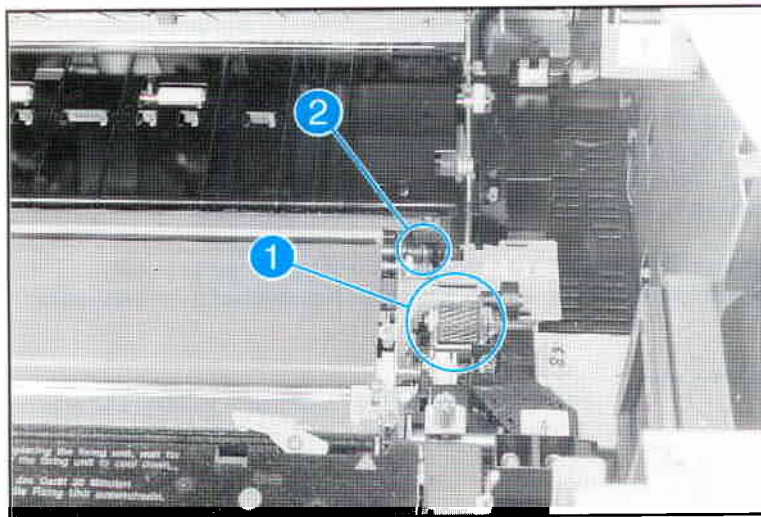

Figure 7-50 Spring Loaded Drum Drive Gear
5. The spring loaded drum drive gear (shown in Figure 7-50), may be stuck in the retracted position. Check that the spring is not broken, and the gear is free throughout its full range of travel. Toner may accumulate around the gear and spring, inhibiting the gear from engaging. Find the cause of any accumulated toner before returning the printer to service. Thoroughly clean the printer, and replace the spring if necessary.